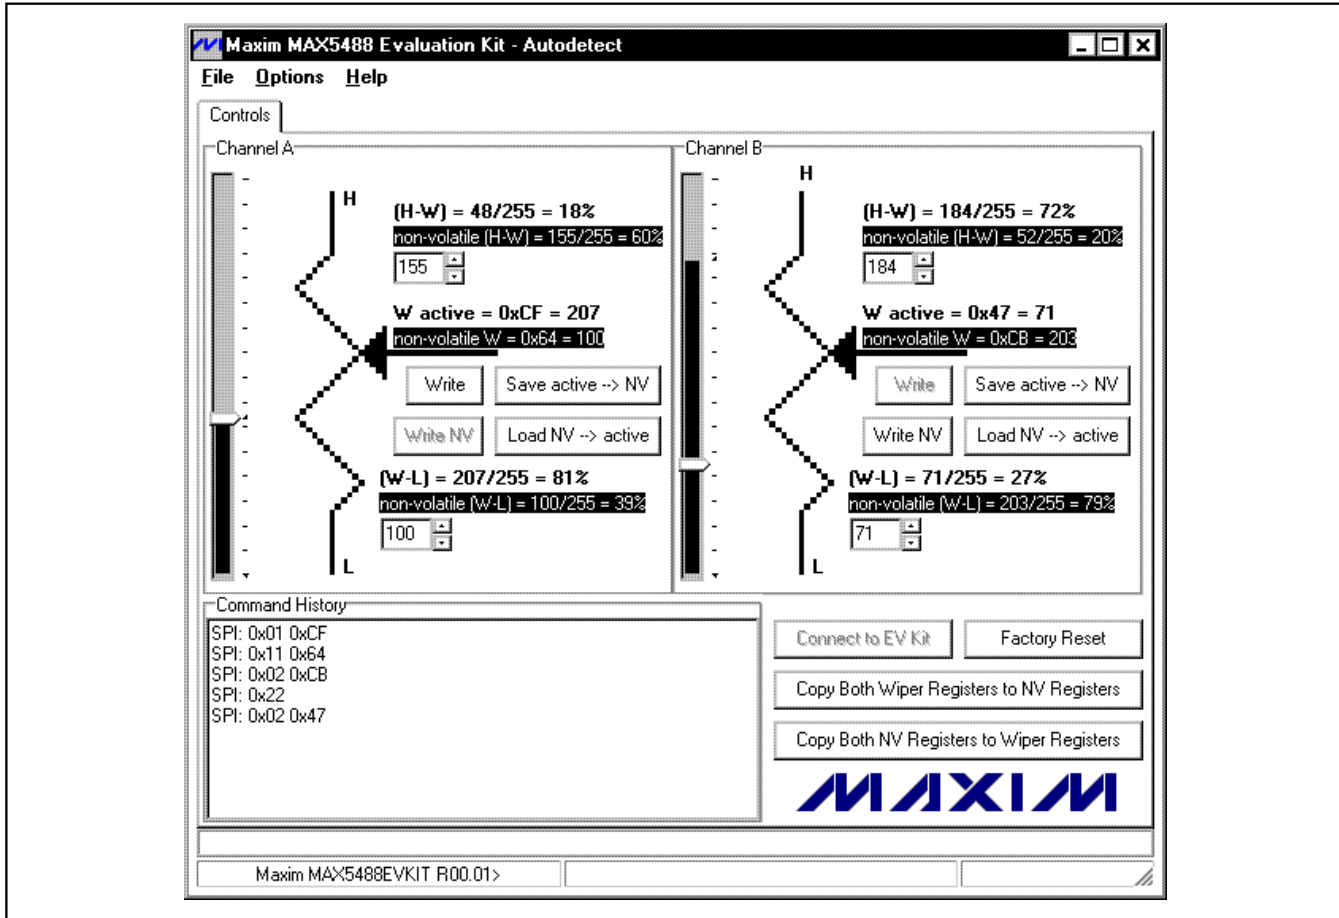

Figure 1. MAX5488 EV Kit Main Window
- 10) The software automatically searches for the MAX5488. After successful connection, the EV kit firmware banner appears in the lower-left corner of the window. Move the **Channel A** or **Channel B** slider and click the **Write** button to set the wiper position, as shown in Figure 1.
The MAX5488 EV kit software graphical user interface (GUI) is a Windows program that provides a convenient means to control the MAX5488 (Figure 1).